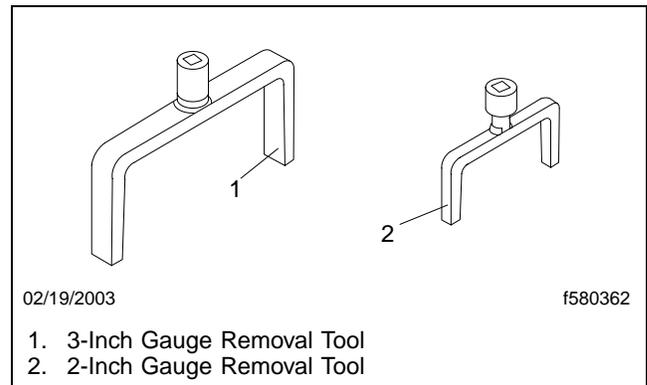

Fig. 3, Gauge Removal Tools
7. Place a gauge removal tool over the retaining ring. See **Fig. 3**.